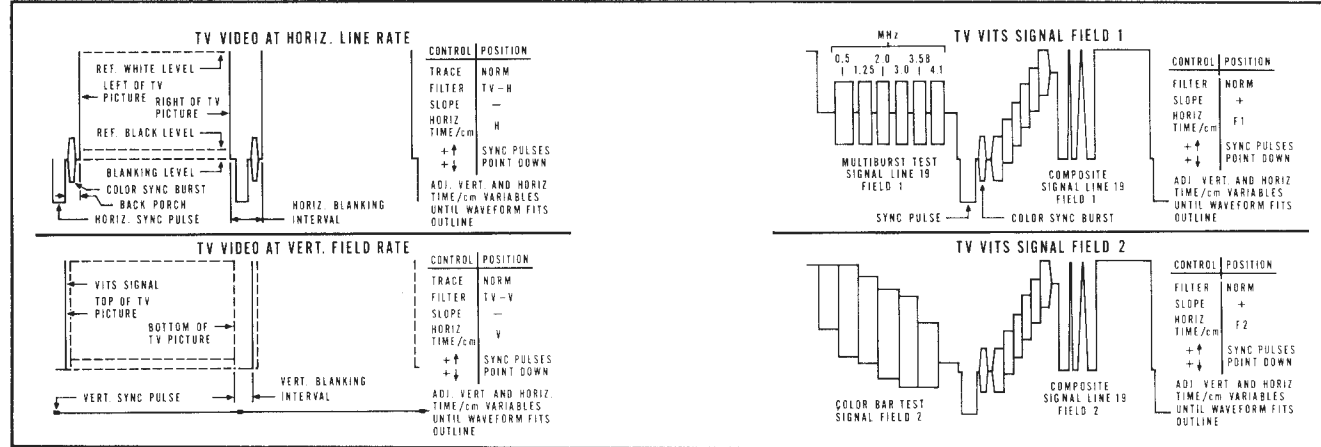

Figure 3-7. Outlines and Control Settings for Video Waveforms
(1) The F1 and F2 positions on the HORIZ TIME/cm switch are used to separate and view the specially transmitted information which occurs after the FIELD 1 or FIELD 2 vertical sync pulse in standard video broadcasts. These signals are used for measuring many different types of distortion which affect the picture quality of the video transmission. The presence of these signals can be determined by adjusting the Vertical Hold control on a standard television receiver until the picture falls out of sync. The VITS can then be seen as a thin line of white dots at the top of the picture below the black vertical blanking bar.
(2) The action of the internal VITS circuitry is to inhibit the trigger circuitry except during the interval immediately after the selected field 1 or field 2 vertical sync pulse. Further, only one sweep can occur during this period. As with the TV-V and TV-H trigger positions the sync tips of the video waveform must point down when the oscilloscope is triggered in the internal position.
(3) The FCC specified VITS outlines are shown in figure 3-7 along with the oscilloscope control settings.
(4) Because the oscilloscope CRT is swept only for a brief interval each frame and is dark during the rest of the frame, the display is quite dim during the VITS display. For this reason a high brightness CRT and considerable level of intensity has been built into the instrument. Hence when viewing the VITS the INTEN control should be moved to its maximum brightness position until the VITS is obtained and then lowered as is required for good focus. The use of a viewing hood also aids in viewing the VITS in areas of high ambient light.
of the composite video and sync. Set the oscilloscope controls as in the outline drawing titled TV VIDEO AT VERT FIELD RATE in figure 3-7. (In television receivers a good place to view the VITS is at the video detector output.)